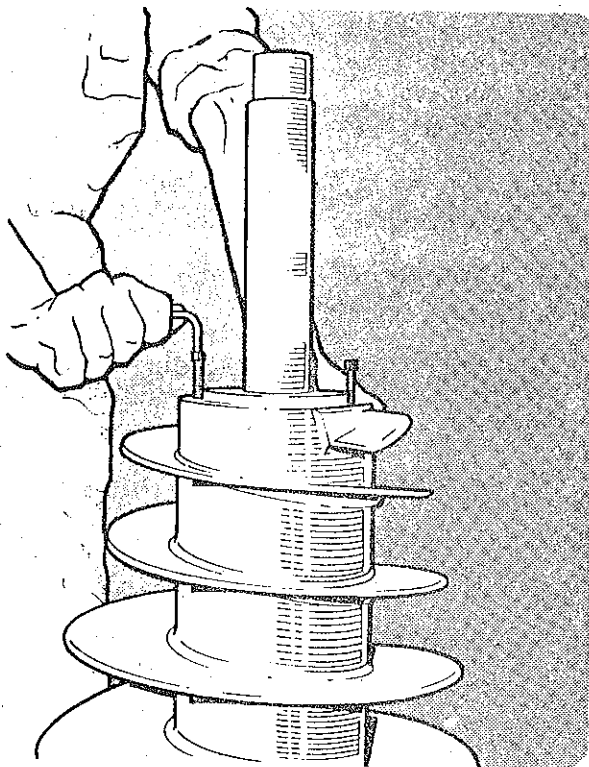

Figure 16. Insert removal
3. Jack out Bearing Housing using hardened steel Jack Screws supplied (Figure 16).
2. Jack the Seal Holder from the Bearing Housing. (Figure 16.)
3. Jack out Bearing Housing and Retainer Tube, using Hardened Steel Jack Screws supplied (Figure 16).